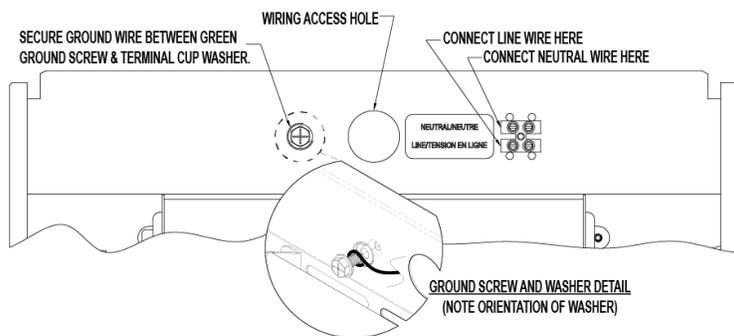

Figure 7: Wire Routing
- Route electrical cable through the wiring access hole to the terminal block. See Figure 7. (Note: This appliance requires the use of 14AWG copper wiring.)
- Secure ground wire underneath green ground screw. Ensure that ground wire is secured and retained within the terminal cup washer provided. See Figure 7.